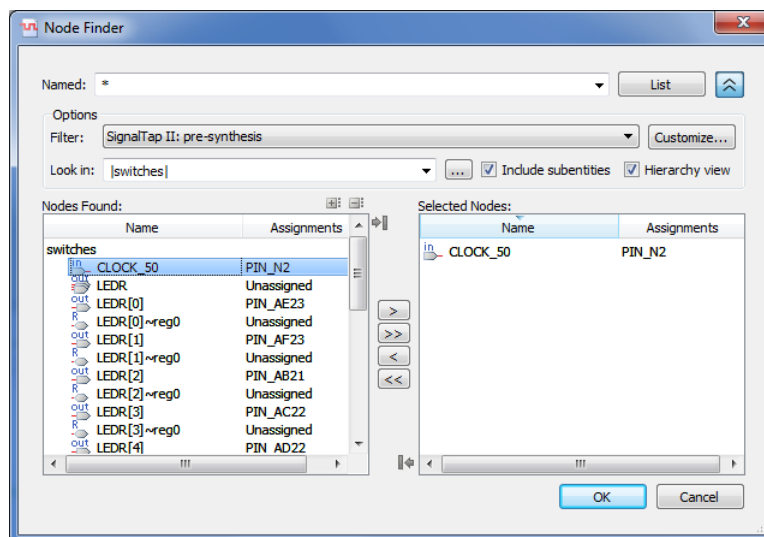

Figure 9. Setting CLOCK\_50 as the clock for the SignalTap instance on a DE-series board.
- Before the SignalTap analyzer can work, we need to specify what clock is going to run the SignalTap module that will be instantiated within our design. To do this, in the Clock box of the Signal Configuration pane of the SignalTap window, click ..., which will again bring up the Node Finder window. Select List to display all the nodes that can be added as the clock, and then double-click CLOCK\_50, which results in the image shown in Figure 9. Click OK.